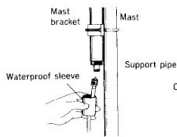

Fig. 9
9) Connect coaxial cable with N connector to the feedpoint section at the bottom of the antenna through waterproof sleeve as shown in Fig. 9. Then attach waterproof sleeve to support pipe firmly with a screw.